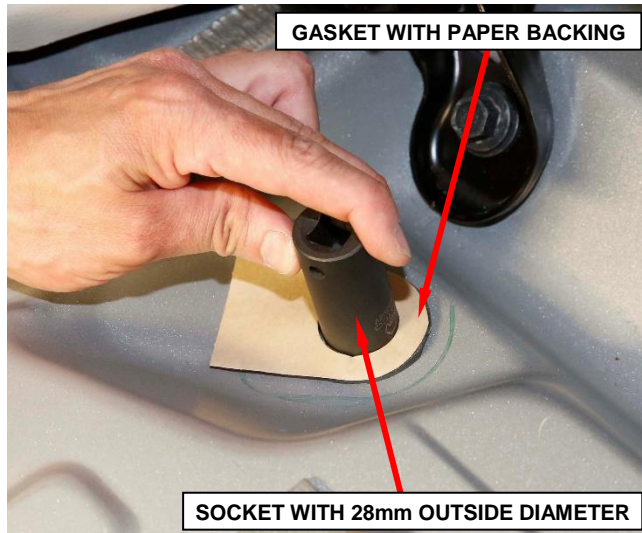

Figure 50 – 12-Volt Isolator Gasket
4. Select an appropriate size socket with an outside diameter of 28mm that fits snugly into the vehicle floor pan isolator hole (Figure 50).
5. Use the socket as an alignment tool in order to center the isolator gasket (Figure 50).
6. Remove one side of paper backing from the isolator gasket then carefully center and apply the gasket to the floor sheet metal (Figure 50).